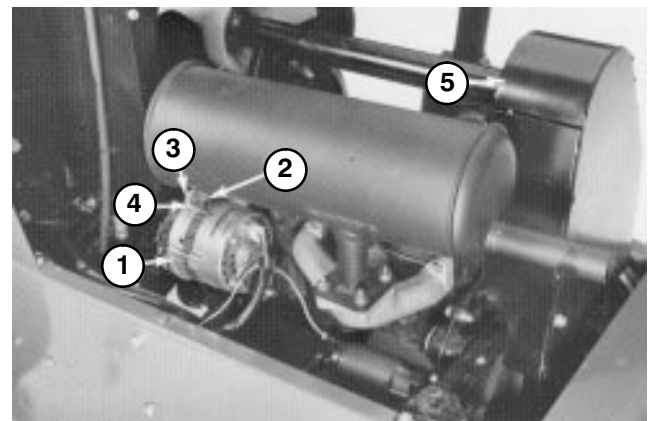

Figure 52
3. Loosen bolt securing brace to engine and bolt securing alternator to brace (Fig. 52).
4. Insert pry bar between alternator and engine and pry out on alternator (Fig. 52).
2. Remove capscrews (5) securing fan belt guard and remove guard (Fig. 52).
5. Install fan belt guard and secure with capscrews (Fig. 52). Close and latch hood.
4. Install fan belt guard and secure with capscrews (Fig. 52). Close and latch hood.